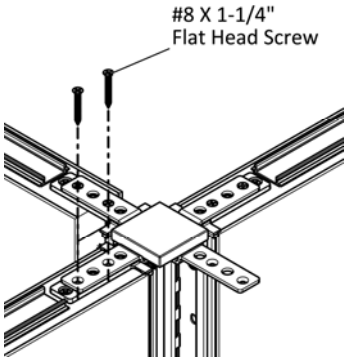

Figure 5
- Drive two #8 x 1-1/4" Flat Head Screws the holes in 4-way top connector into the panel, (Figure 5).